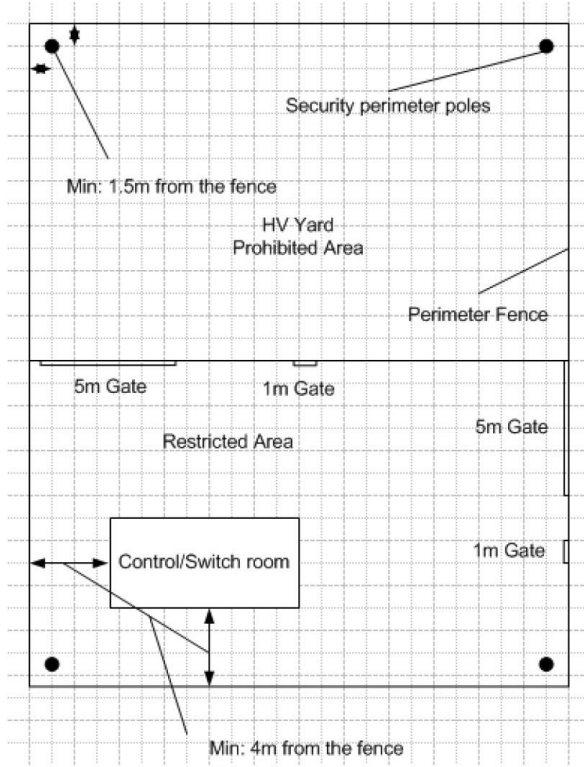

Figure 1: Sterile zone/area needed on the boundary
- a) Allow for sterile zones/areas on the boundaries, at least 4 metres where possible. This is very important for security equipment to operate effectively. See **Figure 1**.